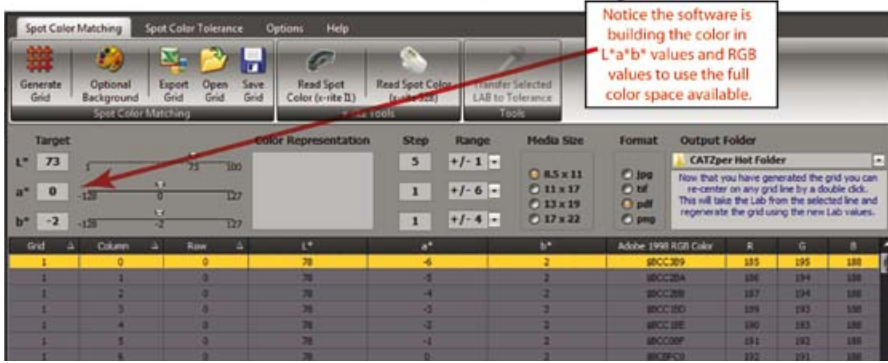

Figure 6: AGPS, Automated Grid Producing Software
Automated Grid Producing Software is the answer. (See Figure 6: AGPS, Automated Grid Producing Software.)
2. Enter the L\*a\*b\* value into the software as the intended colour. (See Figure 6, again)